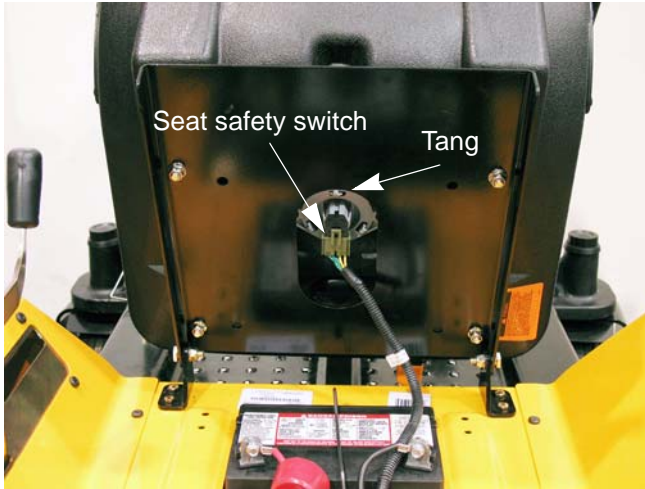

Figure 5.26
2. By-pass the seat safety switch. See Figure 5.26.